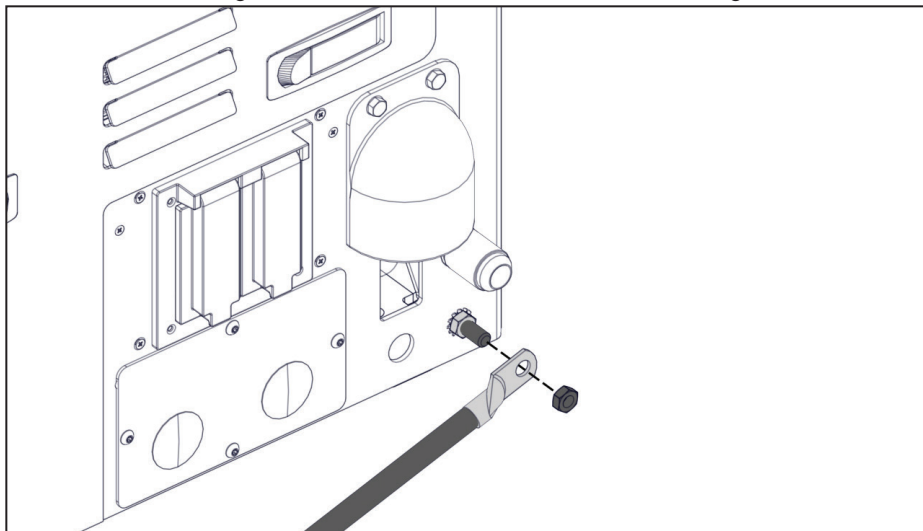

Figure 4 — Connect ground wire
- ☐ Connect a ground wire with a minimum size of 10 AWG to the ground terminal located on the engine side of the unit, next to the air outlet (Figure 4).